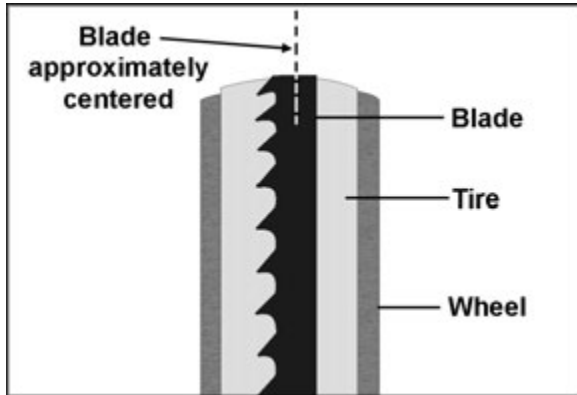

Figure 22
6. Rotate wheel by hand, observing position of blade through tracking window. As you rotate wheel, move lever to "Full Tension" position. The blade should continue to ride upon center of tire (Figure 22).